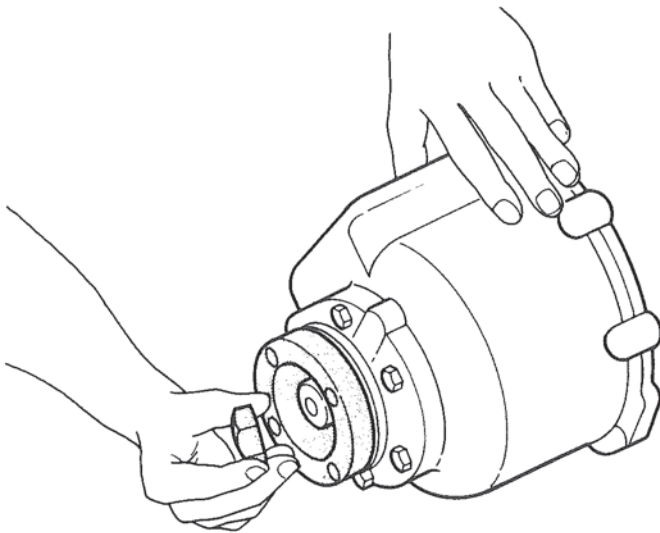

Figure 30. Installing Coupling and Nut.
3. Continue to hold ring gear and main shaft assembly in place. Assemble the main shaft nut on the main shaft and tighten to specified torque. Figure 30.